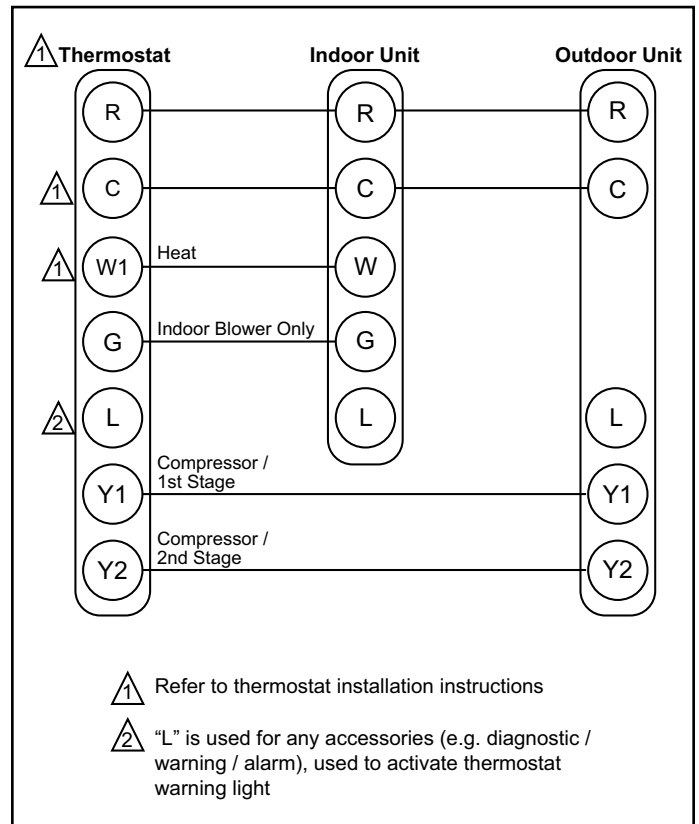

Figure 7. Thermostat Designations - Non-Communicating
5. Install low voltage wiring from outdoor to indoor unit and from thermostat to indoor unit (see Figure 7).
The diagnostic module requires a thermostat demand signal to operate properly. See Figure 7 for connections. The thermostat signal input is 24VAC and should not be less than 0.5VAC.